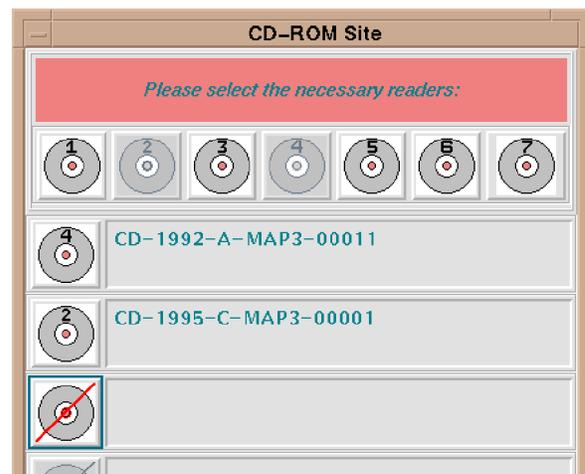

Fig. 79 — **CD-ROM Site Window**: switched priority of CD readers #2 and #4
- 6) The user can rearrange the order of the CDs in the list, if necessary. For example, when listing source CDs to be used in building an AODI, the order will dictate priority: the CD listed first gets top priority. This allows the user to properly overlap CAC sources with different edition numbers, since more recent data should get higher priority than older data. To reorder the CD list, click (with middle mouse button) and drag the desired CD number to its new location (Fig. 79).